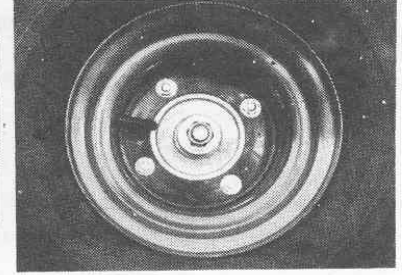

Fig. 14
3. Slide wheel from hub; Fig.14